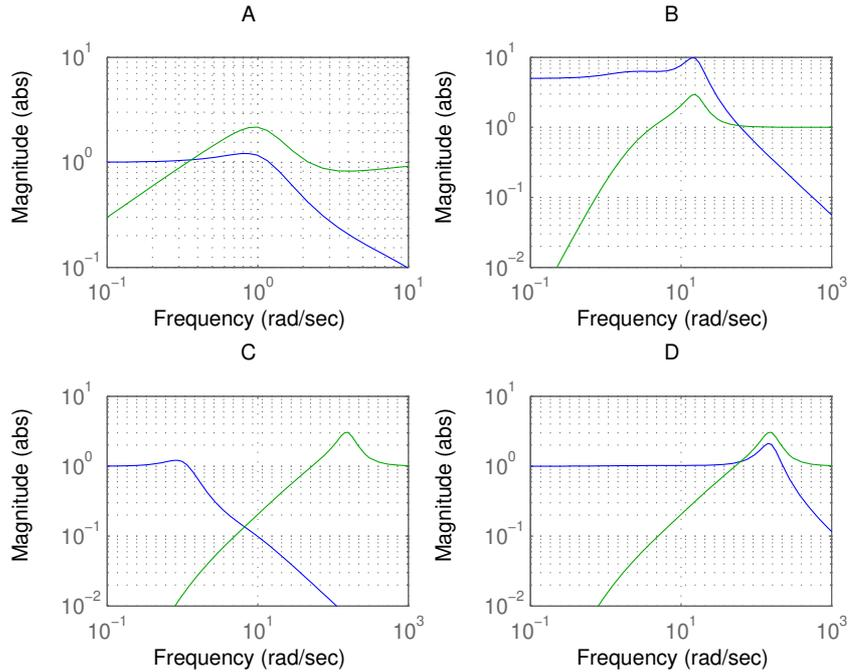

Figure 14.3 Magnitude plots of S and T in problem 6.
- c. Figure 14.3 shows four plots, where one of the plots shows the sensitivity and complementary sensitivity function of a closed-loop system discussed in b, with $\omega_0 = 1$ and a particular choice of $C_2(s)$. Which plot?